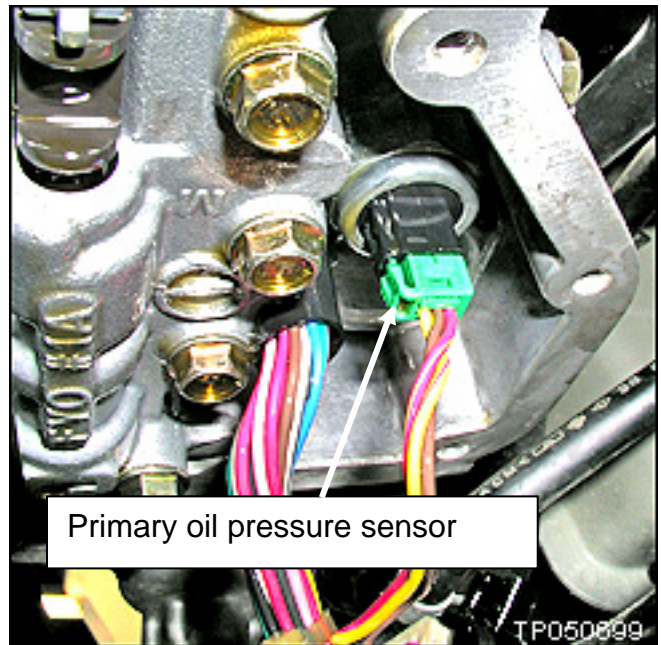

Figure 8
22. Reconnect the harness to the primary oil pressure sensor as shown in Step 11 and Figure 8.